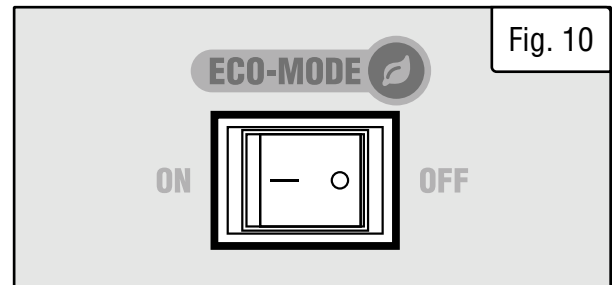

Fig. 10
1. Turn the ECO-MODE (Fig. 10) switch to “OFF” during starting.